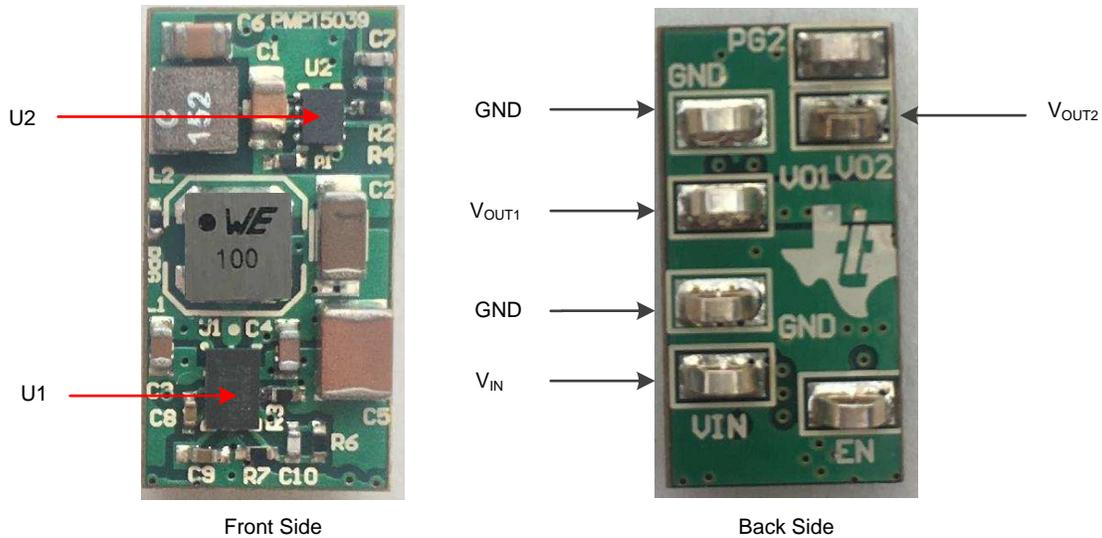

Figure 6. PMP15039 Board Setup
1. Connect a DC power supply to the board input as shown in Figure 6.
2. Connect an electronic or resistive load to the dual outputs (V_{OUT1} and V_{OUT2}) to imitate the typical load as shown in Figure 6.